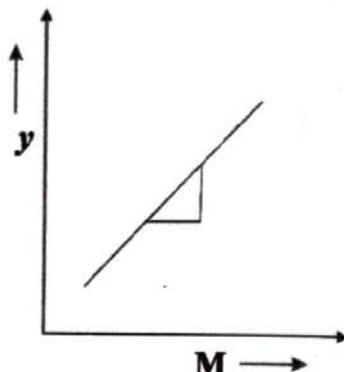

Fig. 4.2
A graph is drawn taking load (M) along x-axis and elevation 'y' along y-axis as shown in Fig.4.2. The slope of the graph gives the value of  $K = y/M$ . Now by substituting the value of the slope in the given formula, the Young's Modulus can be calculated, graphically.